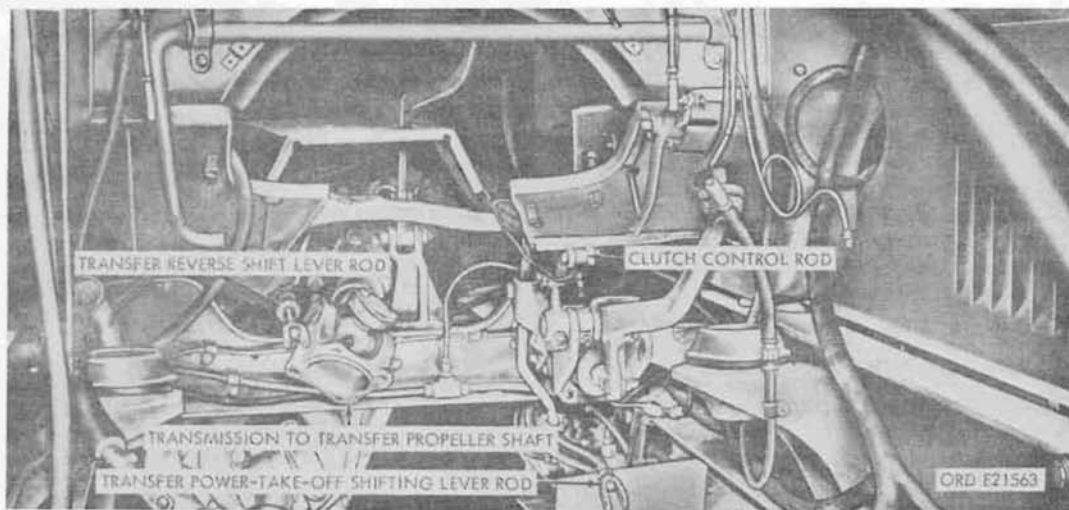

Figure 98. Disconnect points under vehicle
- (3) Disconnect the clutch control rod (fig. 98). Disconnect the clutch control rod from the clutch throwout shaft lever at the clutch housing by pulling the quick-disconnect pin part way out of the rod end yoke.
- (4) Disconnect the transfer reverse shift lever rod from the transfer reverse shift lever at the transmission by pulling a quick-disconnect pin part way out of the rod end yoke.
- (5) Disconnect the transmission-to-transfer propeller shaft (fig. 98).
- (b) Disconnect transmission power take-off-shifting lever rod (fig. 98). Disconnect the lever rod at the transmission power takeoff by pulling the quick disconnect pin part way out of the rod end yoke.
- (3) Trucks M47 and M59 additional disconnect points.